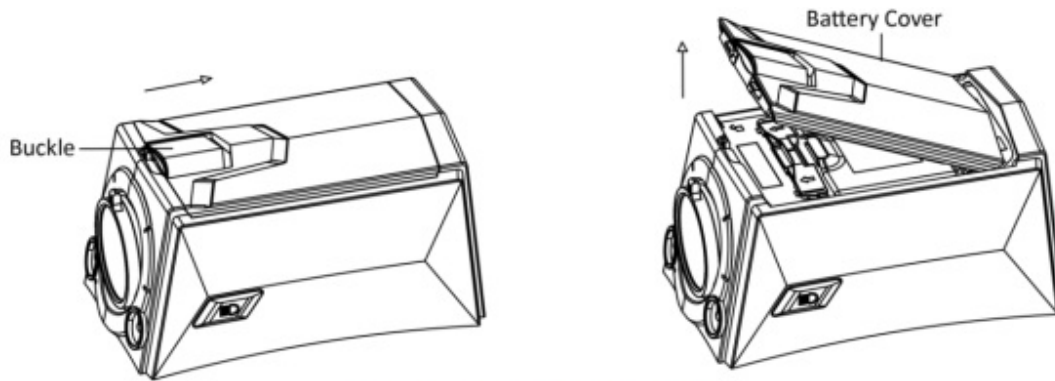

Figure 2-1 Uninstall Battery Cover
Step 1: Press the battery cover buckle according to the direction shown in Figure 2-1, and lift the cover to